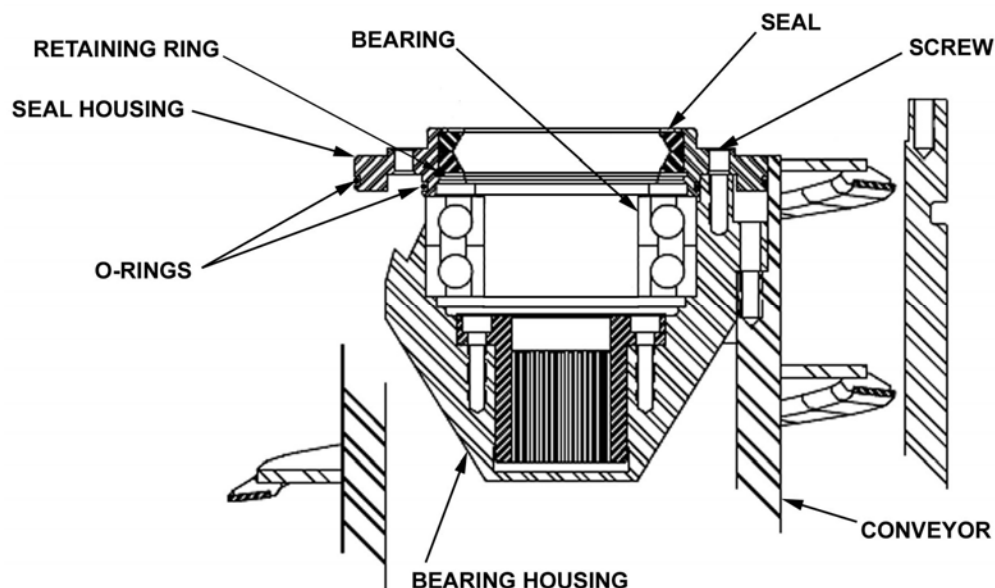

Figure 5-6 Liquid End Seal Housing Removal
- a. Remove four screws securing liquid end seal housing to conveyor (Figure 5-6), and using jack screws to separate seal housing from bearing housing, remove seal housing. Discard seal.
- d. Install new seal in seal housing (Figure 5-6), apply light coat of grease to seal, and install seal housing onto bearing housing. Apply anti-seize compound to screws, insert screws through holes of seal housing, and tighten into bearing housing in accordance with *Hardware Torque Specifications*.